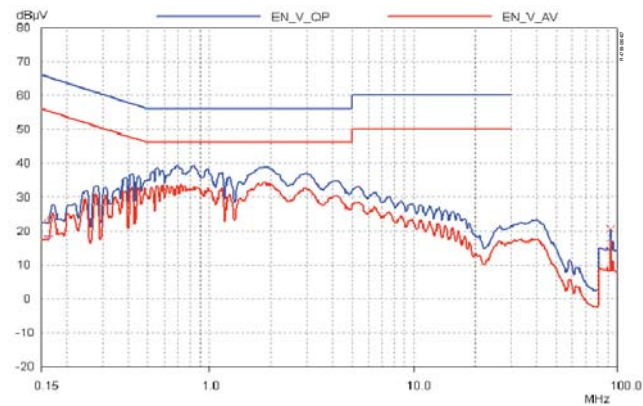

Figure 4. Worst Case EMI Measured at 230 VAC With Artificial Hand Connected to Output RTN
- Meets CISPR-22/EN55022B conducted EMI limits with >10 dB μ V margin (see Figure 4)